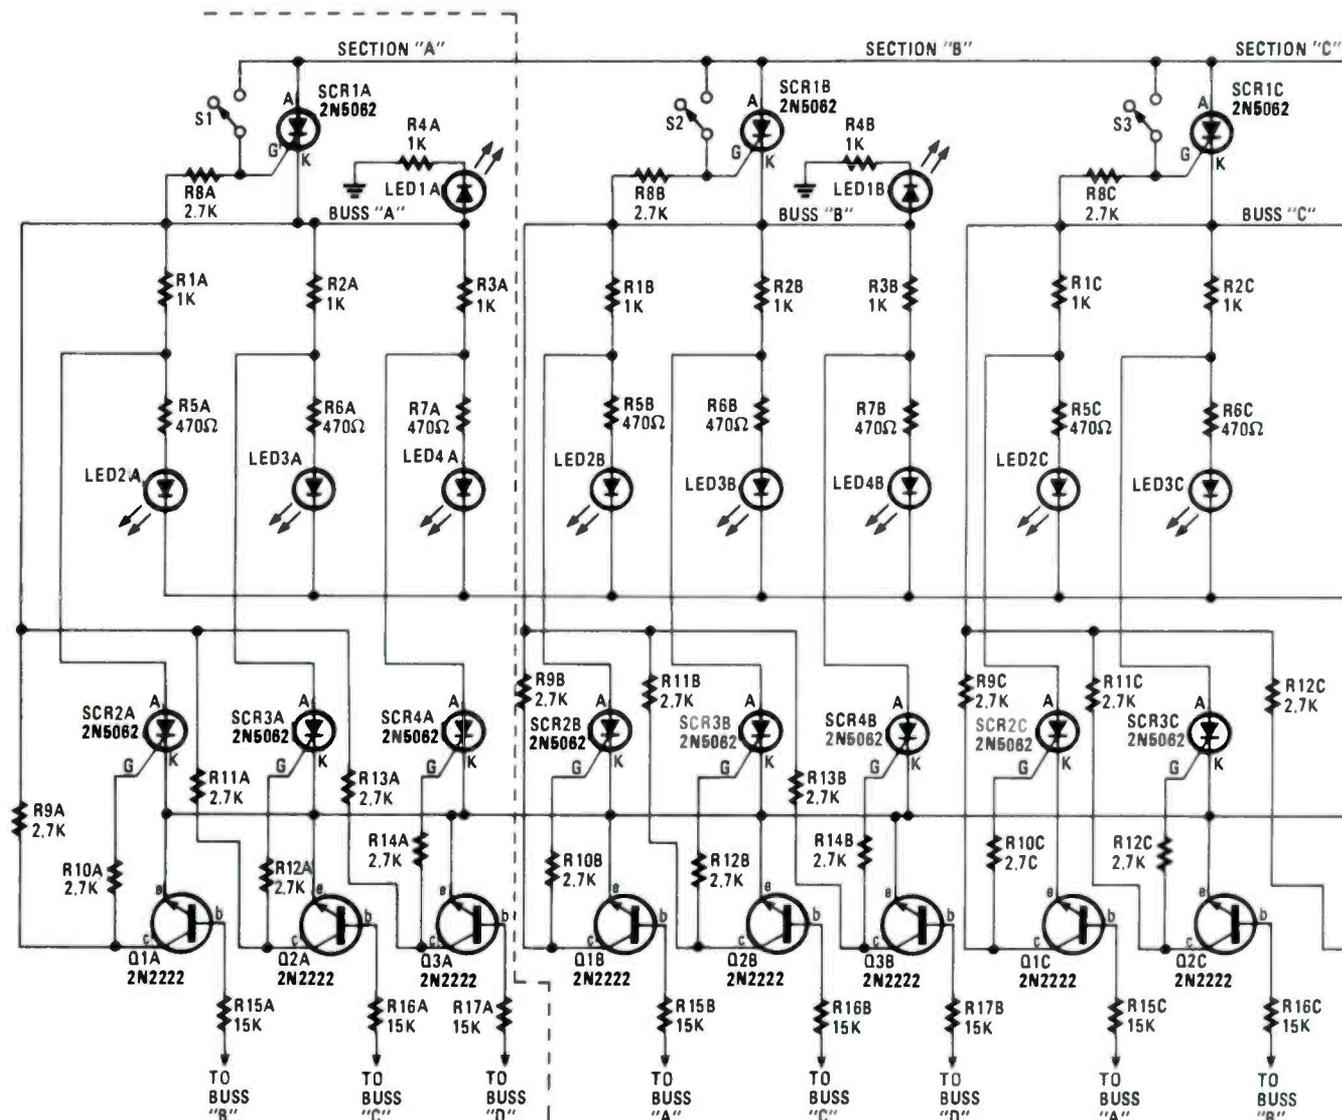

Fig. 3—Seven more SCR's are needed to make the circuit work with a fourth track—with one SCR added to each of the three existing
The circuit in Fig. 3 handles the job quite well. The circuit's operation, when broken down into four separate (but
Figure 2 reveals the internal circuitry of the SA-2550. The circuit has a large, high-voltage, 500-pF variable capacitor driven by a small (but high torque) low-voltage DC motor. The two large eyelet terminals (on either side of the tuners housing) are used to connect the antenna radiators to the box. The use of that capacitor in horizontal and vertical antennas is shown in Fig. 3.
exhibits a capacitive reactance. For that type of antenna we insert a loading coil to provide inductance to cancel the antenna capacitance. That's the usual case for amateur and CB mobile antennas, and some vertical antennas operated on 80-meters. In the case of the SA-2550 tuner, we make the antenna radiator (L1 and L2) in Fig. 3 longer than is normally necessary, and use
Fig. 3—The use of the tuning capacitor along with the inductance of the wire radiator (L) act as an LC network, in horizontal (A) and vertical antennas (B). At resonance, the feedpoint impedance of an antenna is all resistive, but as the operating frequency departs from resonance, the reactive components exhibit a rise in reactance, becoming more inductive or capacitive, depending upon the nature of the frequency deviation.